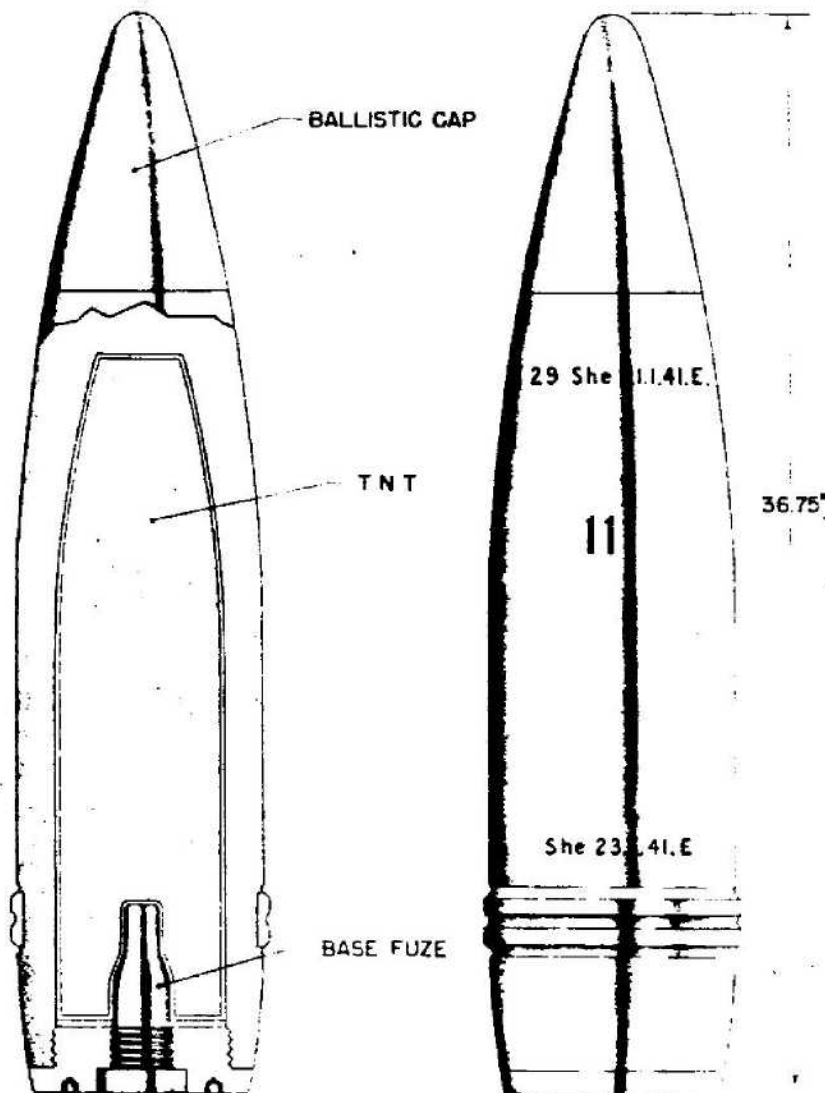

Figure 532—Anticoncrete Projectile, Type 18, 210-mm, 21-cm Gr. 18 Be.
**GERMAN NOMENCLATURE:** 21-cm Gr. 18 Be. (Granate 18 Beton). (See fig. 532.)